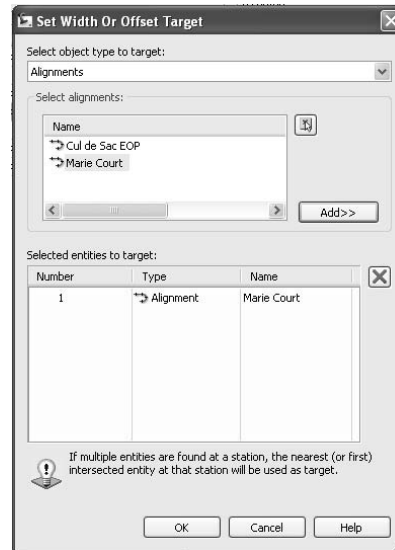

Figure A.80
13. Select the Marie Court alignment from the drop-down list, select the Marie Court FG profile, and press the Add>> button. The Marie Court FG profile entry will appear in the Selected Entities to Target area of the dialog, as shown in Figure A.80. Click OK.